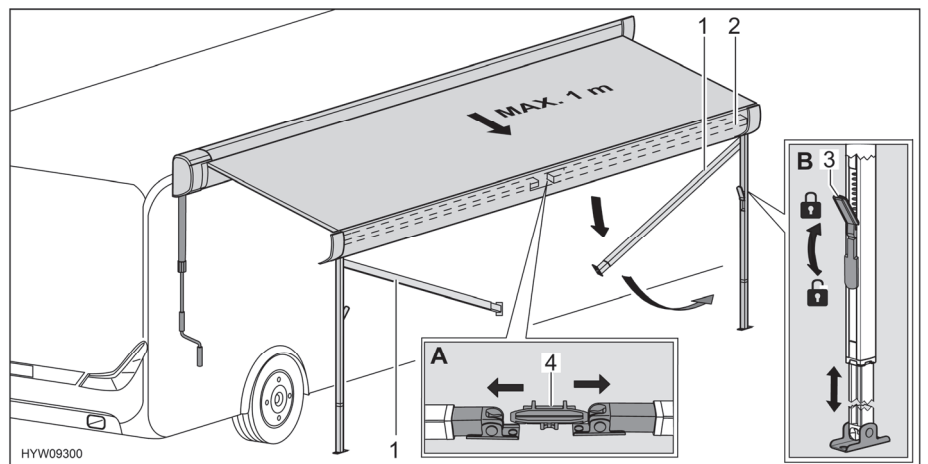

Fig. 48 Preparing support legs
- Release support legs (Fig. 48,1) from holder (Fig. 48,4) in the front bar (Fig. 48,2). In order to do this, apply slight outward pressure on the support legs (Fig. 48,A).
- Release the locks (Fig. 48,3) of the support legs. In order to do this, fold the catch lever downwards.
- Pull lower part of the support legs out to the desired length (Fig. 48,B).
- Close the locks (Fig. 48,3) of the support legs. In order to do this, fold the catch lever upwards.